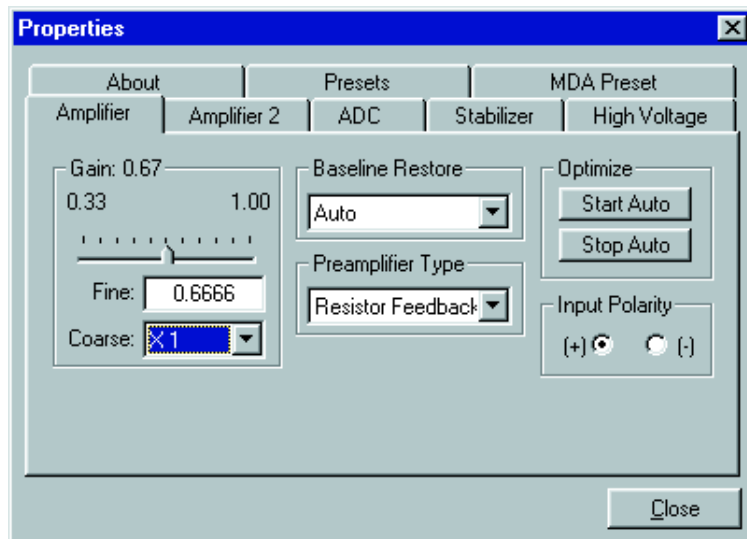

Fig. 7
1.6 To optimize the shape of the gamma-ray peaks for your system, choose **Acquire, MCB Properties**, and click the **Amplifier** tab. Adjust the **Fine Gain** to 0.67 and choose X1 for the **Coarse Gain** (Fig. 7). Click the **Optimize** control. In a few moments the computer algorithm will automatically adjust the pole-zero feature of the DSPEC Plus. You will be alerted when the process is complete.